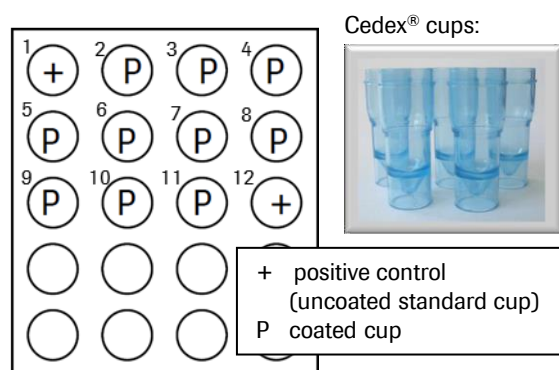

Figure 3: autosampler tray
- Successive measurement as pictured in figure 3